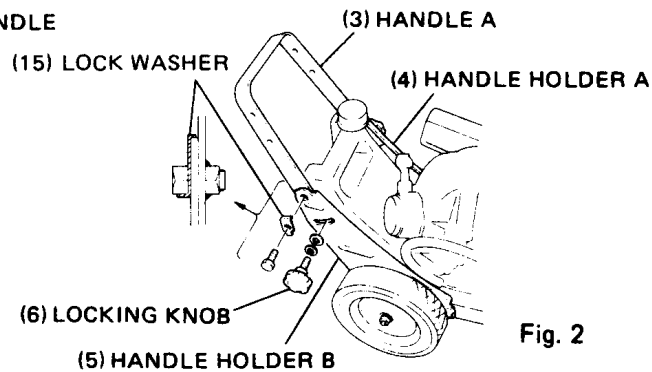

Fig. 2
- b. Install handle A onto handle holders A and B by using 2 pcs. 8 x 20 bolts and 2 pcs. lockwashers. Bend the lock washers against the bolt head after tightening. Next secure handle A with the locking knobs, 2 pcs. 8mm washers and 2 pcs. 8mm spring washers. (Fig. 2)